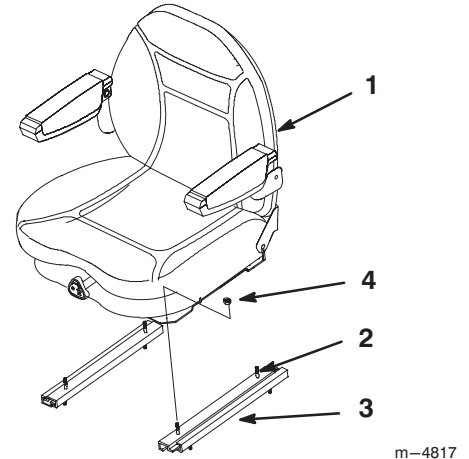

Figure 5
2. Position seat on the studs in the adjustable tracks (Fig. 5).
3. Install nuts onto studs (Fig 5).